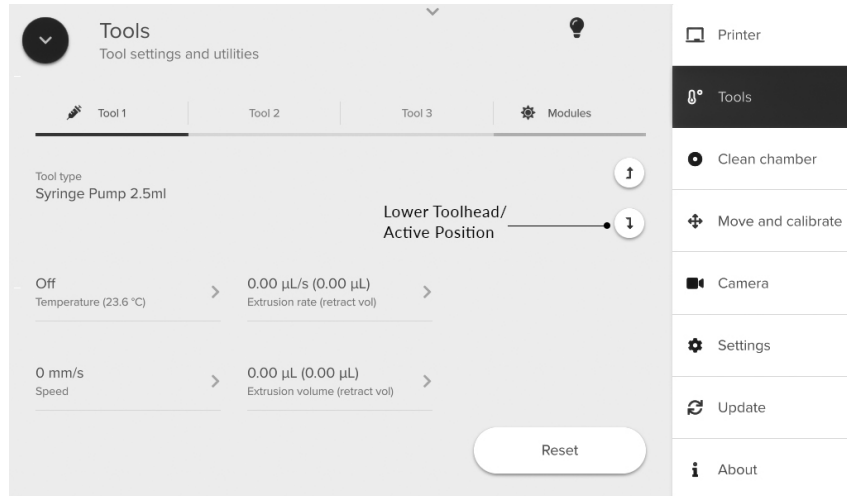

Figure 5: Lower the Syringe Printhead into the active loading position.
7. Lower the Syringe Printhead into the active position (Figure 5).